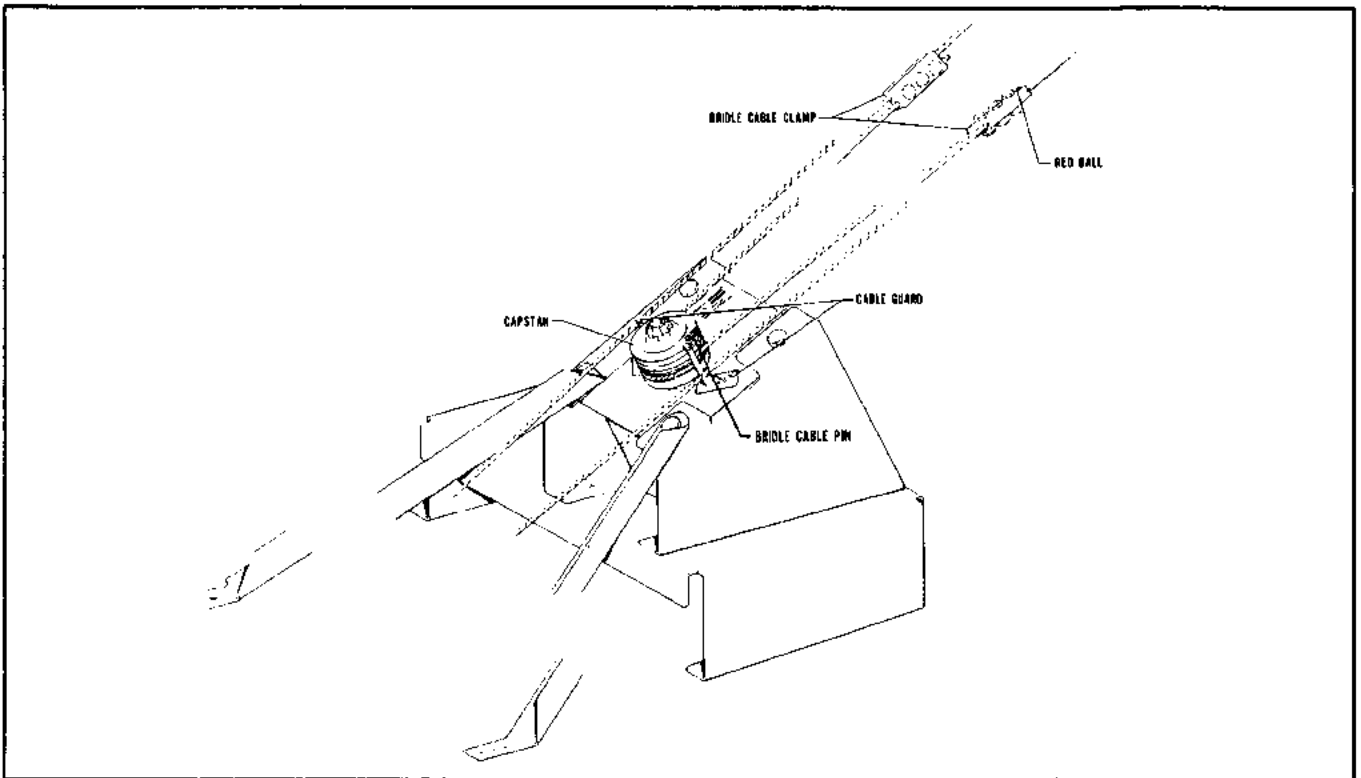

Figure 3-24. Rudder Servo Installation, PA-31-310, PA-31-325, PA-31-350 and PA-31P
3-50. INSTALLATION OF RUDDER SERVO. (PA-31-310, PA-31-325, PA-31-350 and PA-31P) (Refer to Figure 3-24.)
- e. REFER TO FIGURE 3-9 AND CHECK THAT THE CONTROL CABLE TENSION (Z) IS ADJUSTED TO 25 ± 2 POUNDS PRIOR TO ATTACHING THE BRIDLE CABLE CLAMPS. Ascertain the area on the cable where the clamp attaches is clean, dry and free of all lubricants and anti-corrosive additives. Attach the bridle cable to the rudder control cables. The bridle cable is drawn to the rudder control cables and attached with clamps at the previously painted locations on the control cables. The end of the bridle cable with the red ball attaches to the RIGHT control cable. (Should the rudder cables not be painted, position the rudder in neutral and the bridle cable pin installed in the capstan as shown in Figure 3-24.) Adjust the bridle cable clamps, so that the bridle cable tension (Y) as shown in Figure 3-9 is 15 ± 2 -